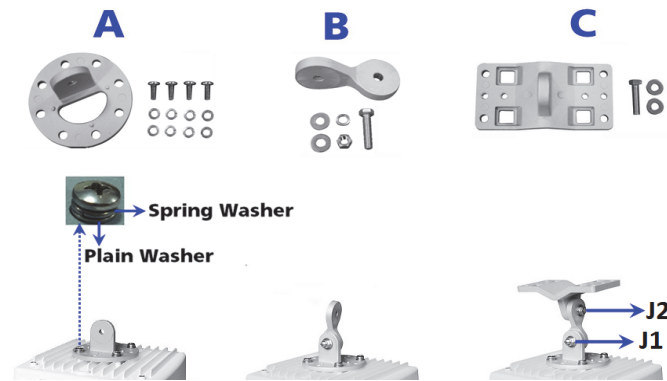

Figure 3: Assemble the Mounting Hardware
1. Fix the Mounting Plate (A) onto the bottom of the device using the provided screws and washers such that the antennas will be vertically and horizontally polarized when mounted; also, it is recommended to partially fasten the screws with washers into all the mounting holes, prior to final tightening of each screw. Torque the screws to 75 Lbf-in (86 Kgf-cm).
2. Fix the Extension Arm (B) to the fixed Mounting Plate (A) with the provided screw, nut, and washers. The Extension Arm (B) gives the device more possible tilt, letting you adjust for azimuth or elevation over a larger angle.
3. Fix the Mounting Bracket (C) to the fixed Extension Arm (B) with the provided screw, nut, and washers. Partially tighten the joints J1 and J2 to allow for alignment of the device.
5. The last image in Figure 3 shows the fully assembled mounting hardware attached to the device.